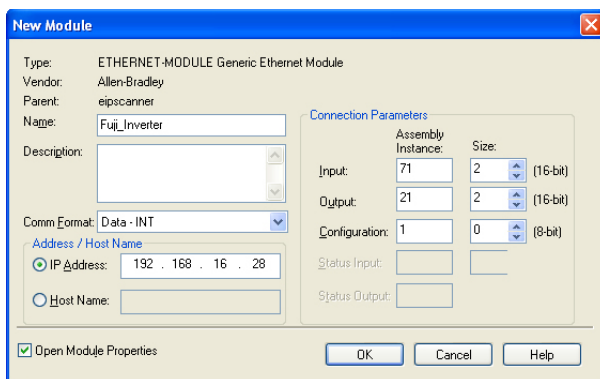

Figure 88: AC/DC Drive Profile Generic Ethernet Module Configuration
- 1) Complete all the steps in section 8.2.3. Please note that the Assembly Input Instance must be changed to 71 and the Assembly Output Instance must be changed to 21. Refer to Figure 88.